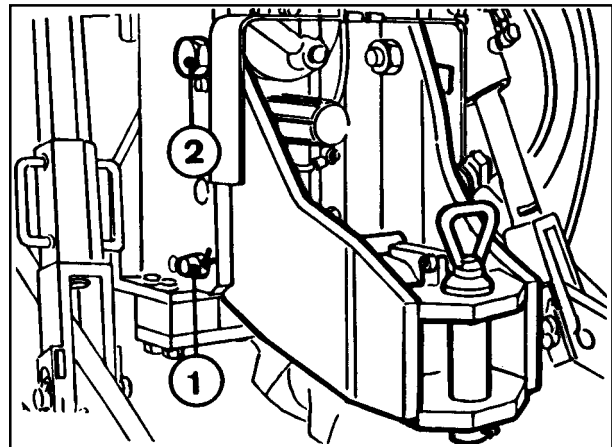

Fig. 4-56 - Class "C" tow hook
A Class "C" tow hook "C" (Fig. 4-56) may be fitted for towing single or twin axle agricultural implements and trailers.
To adjust the tow hook, pull out the securing pins (1 - Fig. 4-56) and the bolts (2) to free the hook and move it to the desired height.